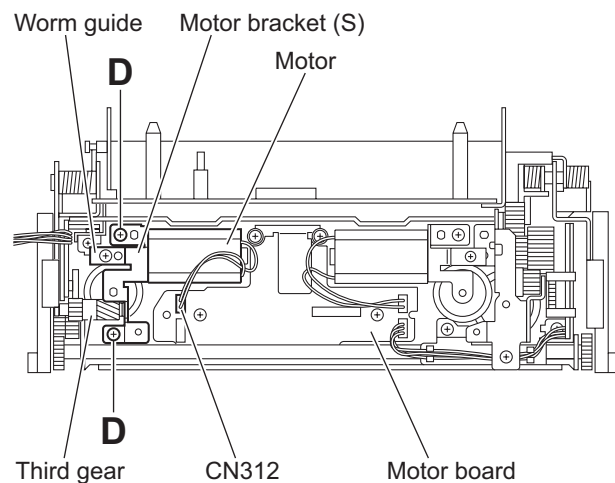

Fig.7
- (2) Disconnect the wire from the connector CN312 on the motor board. (See Fig.7.)
- (3) Remove the two screws **D** attaching the motor bracket (S). (See Fig.7.)
- (4) Take out the motor bracket (S), worm guide, motor and third gear together. (See Fig.7.)